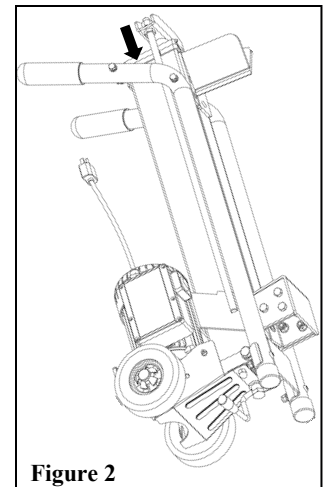

Figure 2
6. Turn the log splitter on the motor side, refill with 3.2 quarts of fresh hydraulic oil as shown in figure 2.